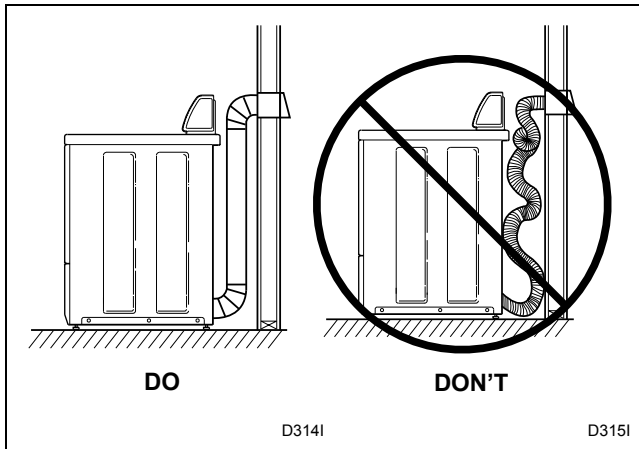

Figure 4
- DO NOT use plastic, thin foil or type B ducting. Rigid metal duct is recommended. Refer to *Figure 4*.